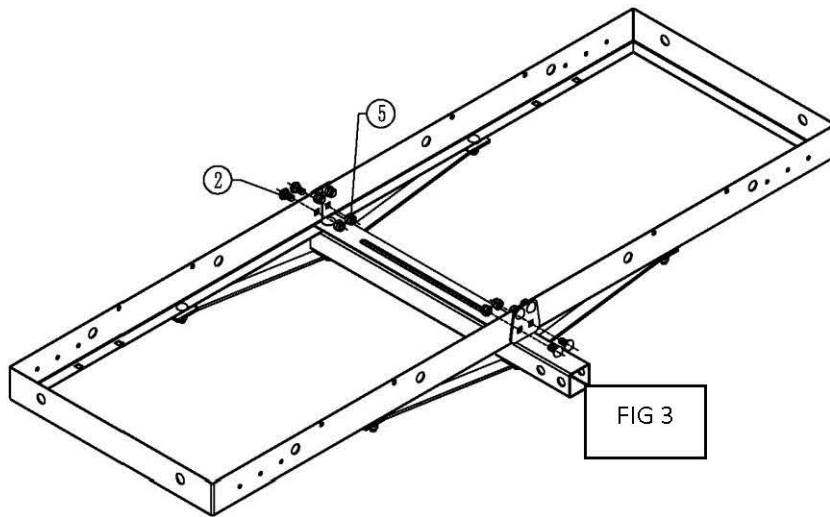

FIG 3
**Step 3** Align platform angle side holes (the lower 2 holes), connect platform (1), and connecting plate (13), with M10X20 carriage bolt (2), M10 locknut(5), (**80%tightness**). See FIG 3